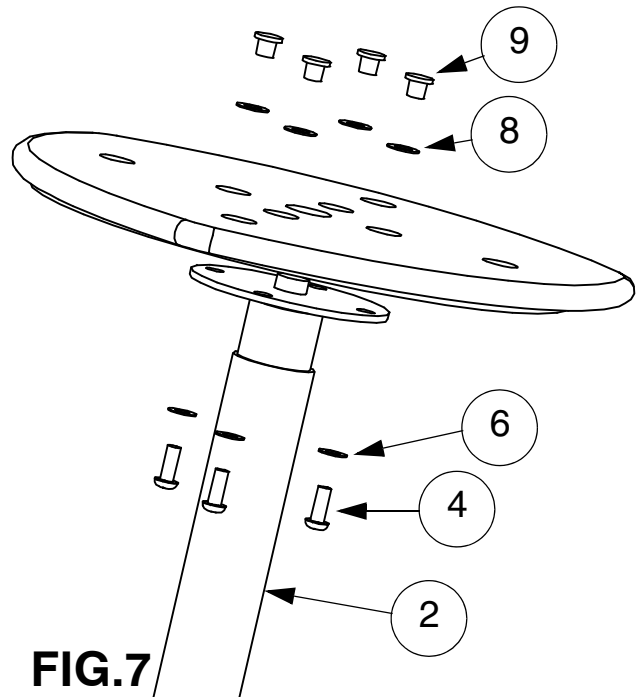

FIG.7
- 5) Assemble the Eko Grip Seat with attached Mounting Plate to the Spinning Ground Assembly (item 2) using 4 off M10 Tee Nuts (item 9) with M12 Shockproof Washers (item 8) and 4 off M10 x 25 Resistorx Bolts (item 4) with M10 Washers (item 6). See FIG.7.